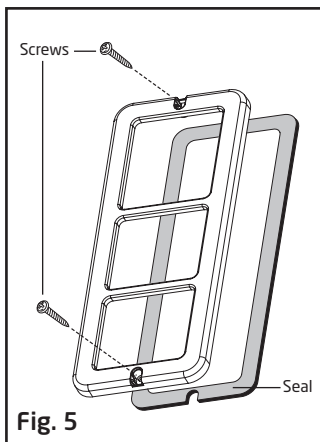

Fig. 5
- Fit the rubber seal to the cover of the call station see Fig. 5 use the two supplied screws to secure the front cover to the back plate, paying attention to the seal so it remains seated correctly.